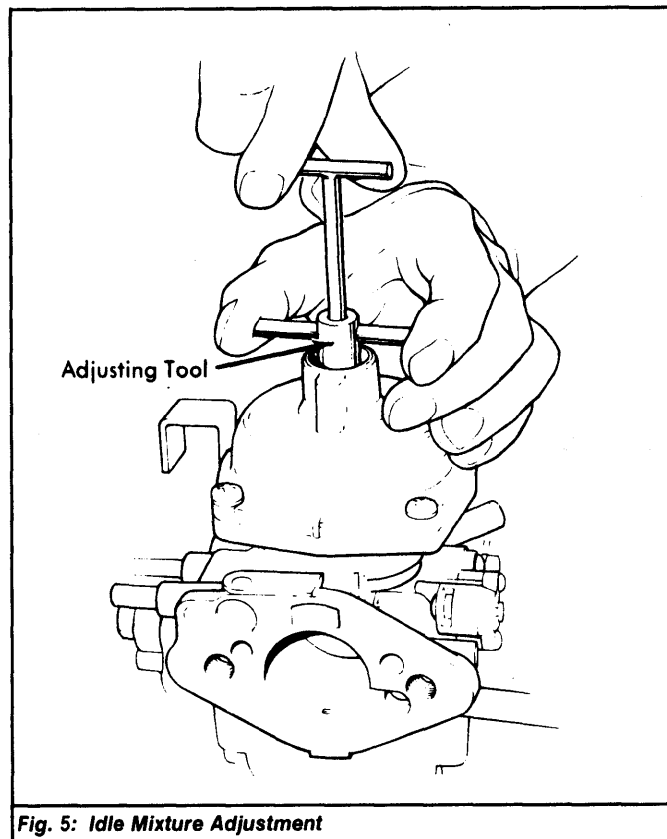

Fig. 5: Idle Mixture Adjustment
4) Remove piston damper from carburetor(s). See Fig. 5. Then, carefully insert Needle Adjuster (S 353) into damper until outer adjuster engages air valve and inner portion engages hexagon in needle.